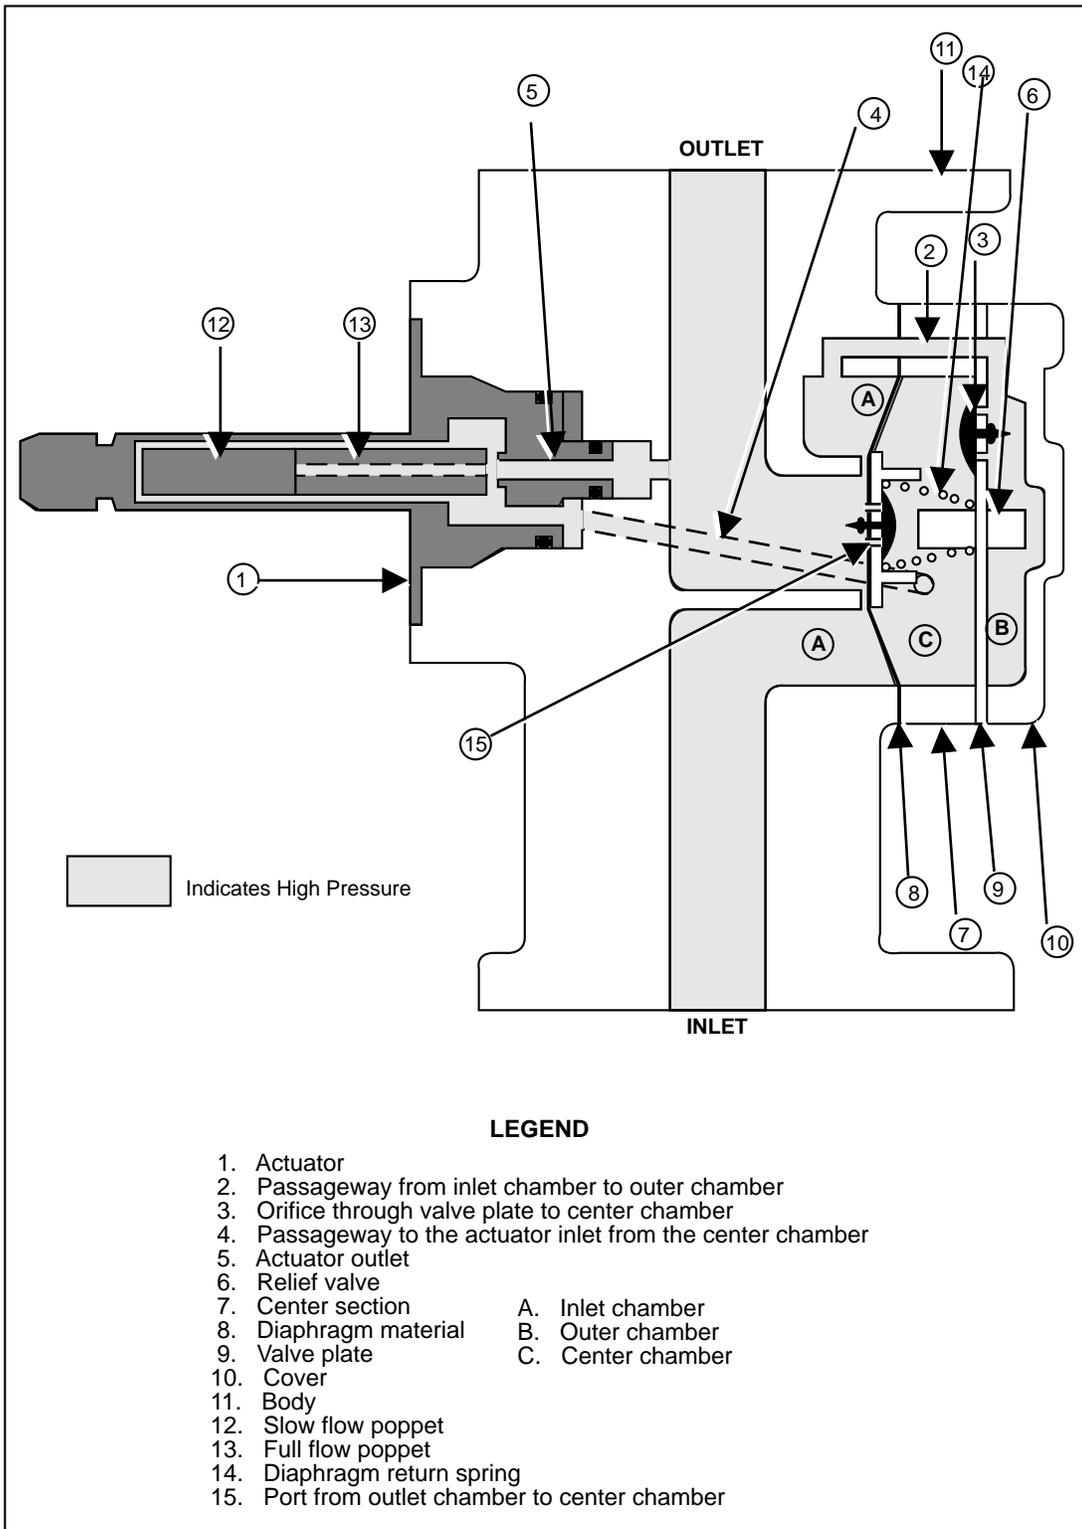

FIGURE 5-4. FLOW CONTROL VALVE "ON" FULL FLOW
5.2.1.3. Flow Control Valve “On” Full Flow (see Figure 5-4)